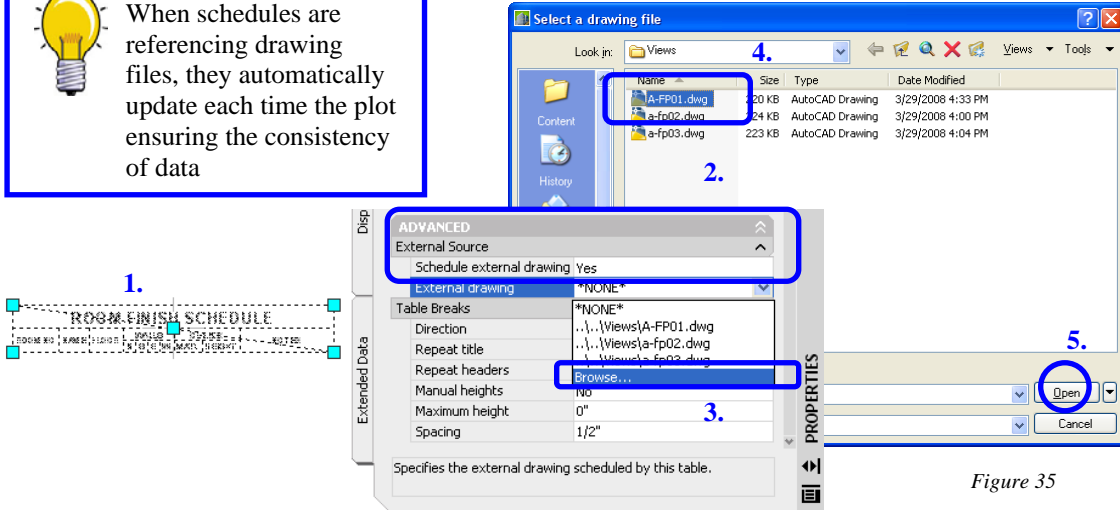

Figure 35
4. Browse to <project name>/Views/ and select **A-FP01.dwg**. *Figure 35*